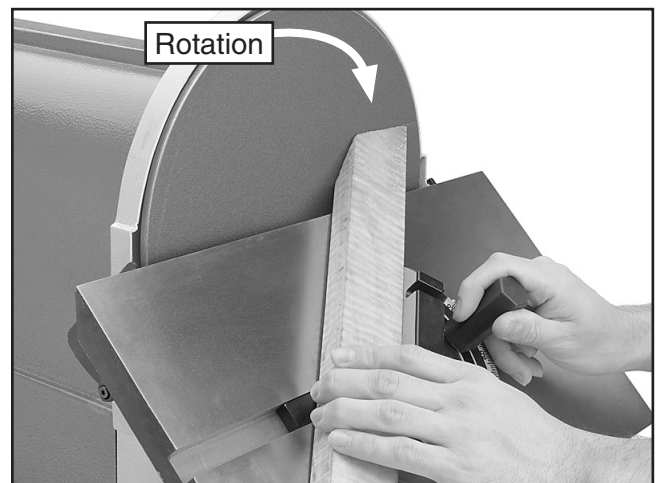

Figure 34. Typical angle sanding operation.
4. With light, but steady pressure, push the workpiece slowly into the downspin side of the rotating disc (**Figure 34**).